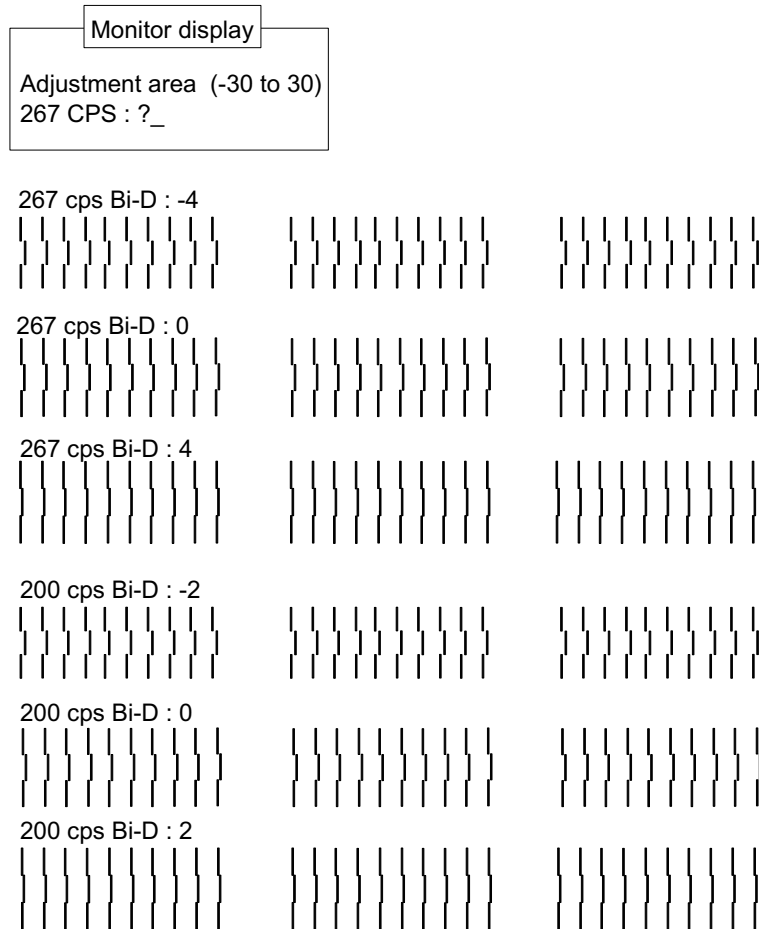

Figure 4-35. Bi-d Adjustment Patterns
- Press “ENTER” key, and the menu below appears, along with 6 adjustment patterns, 3 for 267 cps and 3 for 200 cps, are printed in black as shown in Figure 4-35.